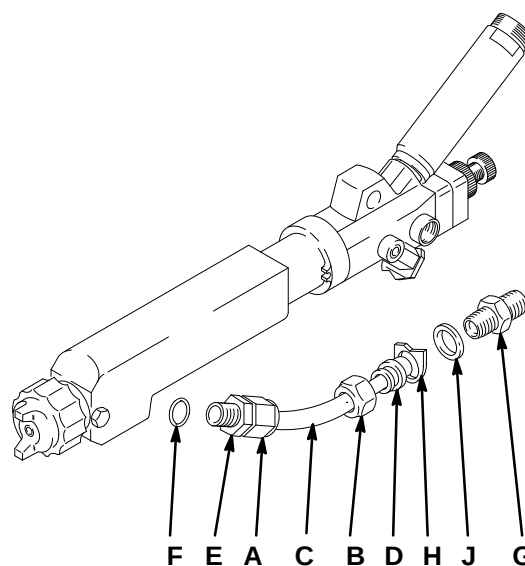

Fig. 1
Loosen the fluid tube nuts (A and B). Remove the fluid tube (C), nuts (A and B) and the collar (D). See Fig. 1.